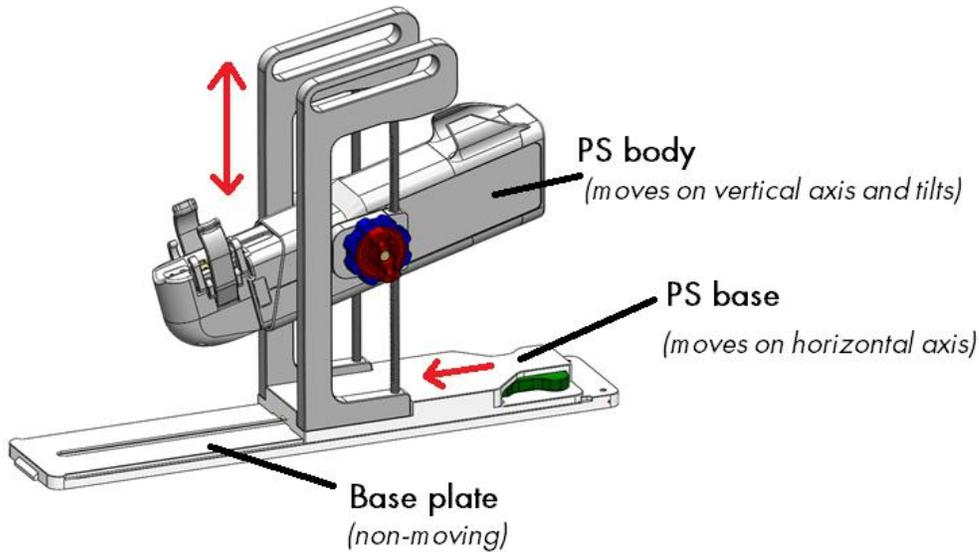

Figure 22: Adjusting the Positioning System
3. **MRI Technologist:** Manually move the PS into position so that the UA gripper aligns with the natural angle of the UA in the patient. Manually adjust the base of the PS forward and backward and up and down, and tilt the linear axis of the PS up and down (Figure 22). Adjust the horizontal position by pressing the green lever and sliding the PS base.
**NOTE:** The PS adjustment knobs and levers are not coloured as in Figure 22, but are coloured here to help with these instructions.